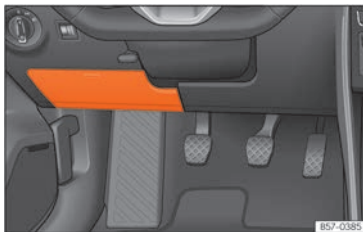

Fig. 196 On the dashboard on the driver side: lid of the fuse box.
- **Open:** fold the cover down >>> Fig. 196.